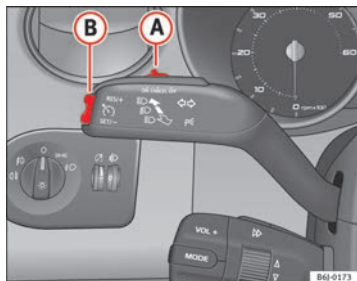

Fig. 120 Turn signal and main beam headlight lever; switch and rocker switch for the cruise control
- Move the control ⇒ Fig. 120 (A) to the left to **ON**.